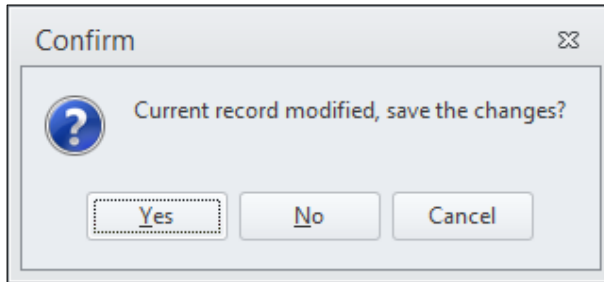

Figure 75 Toll bridges modification
- 3) To add a new toll, the user must know the start (A) and end (B) node for the link in the network. To visualize the network, open the Input_Data.mxd file, e.g. from the Data Section window. The A and B node numbers can be accessed e.g. by selecting the link with the Select Features tool and looking in the Feature Explorer window
- 4) Close the Toll bridges table by clicking the “X” icon in the top right corner and click “Yes” to the question, see Figure 75.